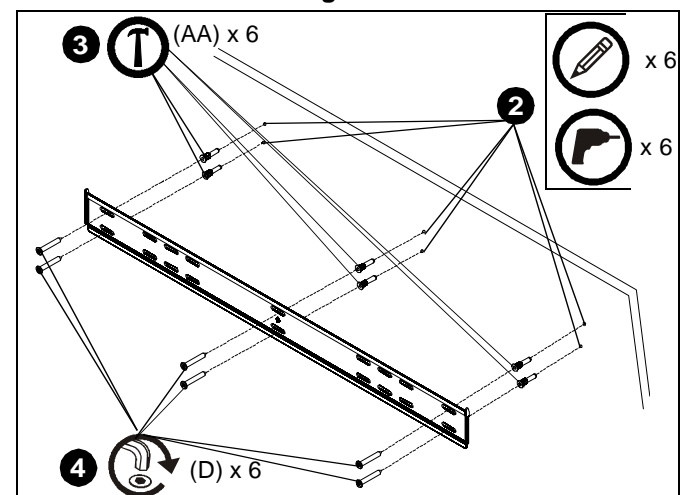

Figure 3
2. Using wall plate as a template, mark and then drill six 5/16" diameter pilot holes through mounting surface. Use level to make sure wall plate is perfectly horizontal. Holes must be drilled at least 2-1/4" deep. (See Figure 3)
3. Install six anchors (AA) into pilot holes drilled in Step 2. Use a hammer to lightly tap anchors into holes. (See Figure 3)
4. Install six connector screws (D) through wall plate holes and into anchors. (See Figure 3)